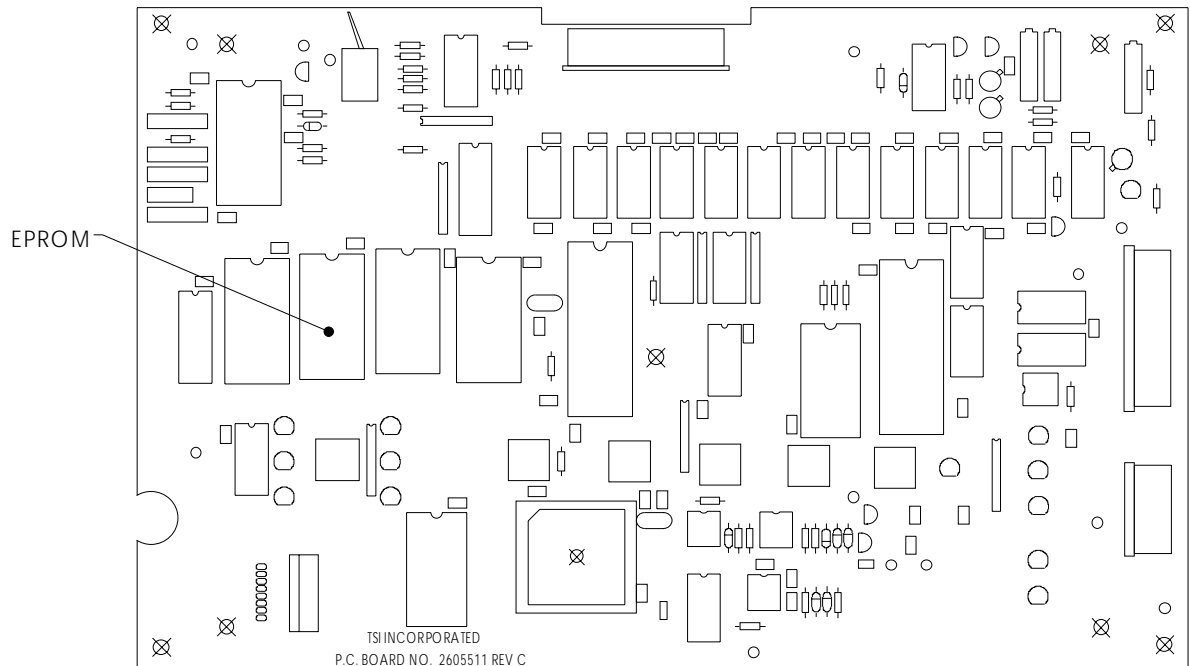

Figure 8-4
- 5.** Find the EPROM on the display board, the large circuit board parallel to the UCPC front panel (Figure 8-4). To remove the old EPROM from the display board, use a 28-pin chip extractor or insert the tip of a medium-size flat screwdriver under the short sides of the chip and *gently* twist.
- 7.** Align the new EPROM in the socket, making sure the EPROM's notch matches the notch on the circuit board (Figure 8-4). Apply pressure to the center of the chip until it snaps down into the socket. Press *firmly* to make sure it is seated properly and ensure there are no bent or unseated pins.